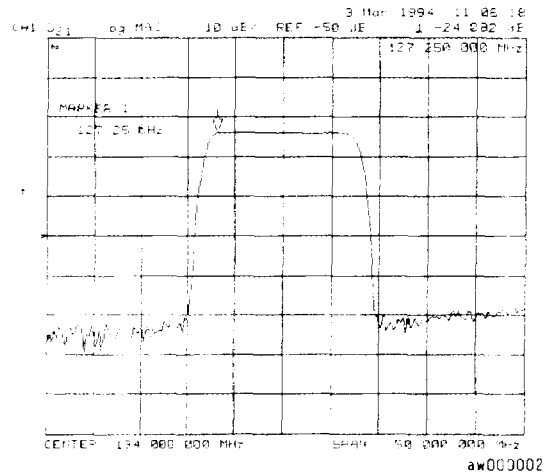

Figure 4-2. Example Magnitude Response Measurement Results
- 6 To locate the maximum amplitude of the device response, as shown in Figure 4-2, press: